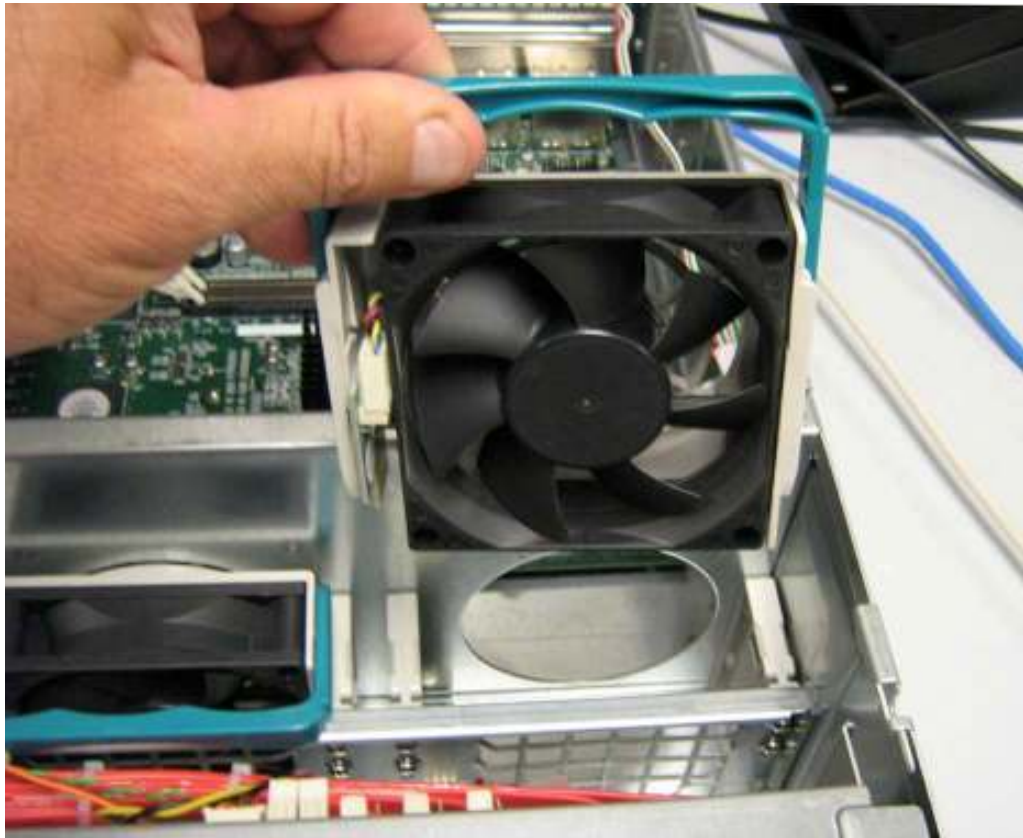

Figure D-18 Remove the Fan
3. Remove the fan from its socket as seen in Figure D-18.